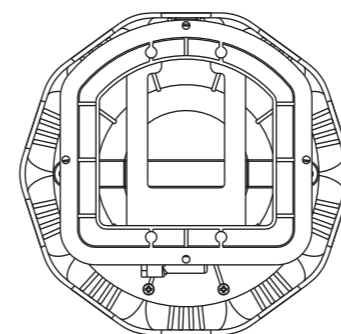

Figure 2.
- 2) Connect conduit to midst of Mounting Spacer (left of Bracket), see Figure 2.